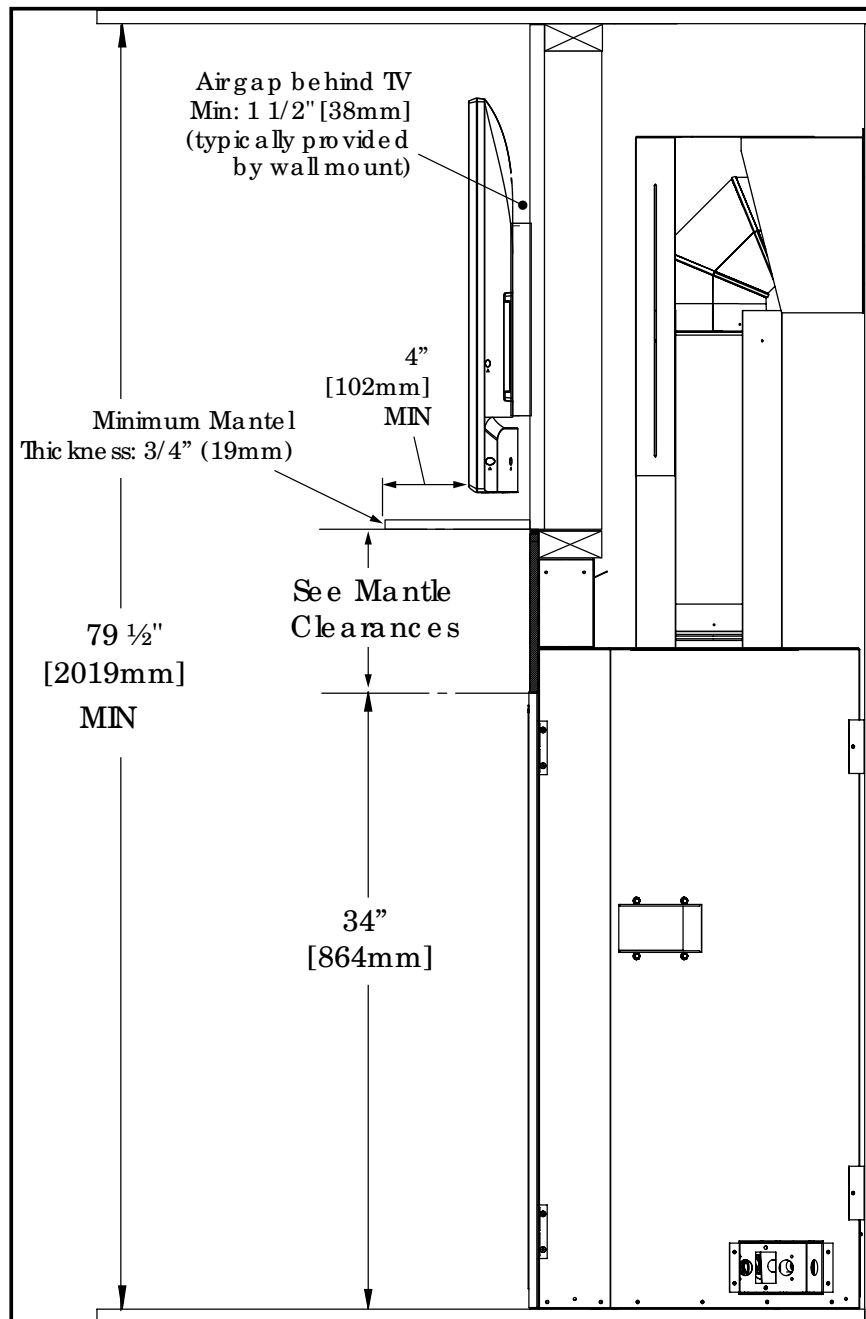

Figure 59: Minimum TV Install w/ Mantel
**Mantel Only Installation:** Always maintain minimum clearances (see Figure 59). The total depth of the TV and wall mount will determine the minimum allowable mantel depth and installation height. Use of the Cool Surface System is highly recommended.